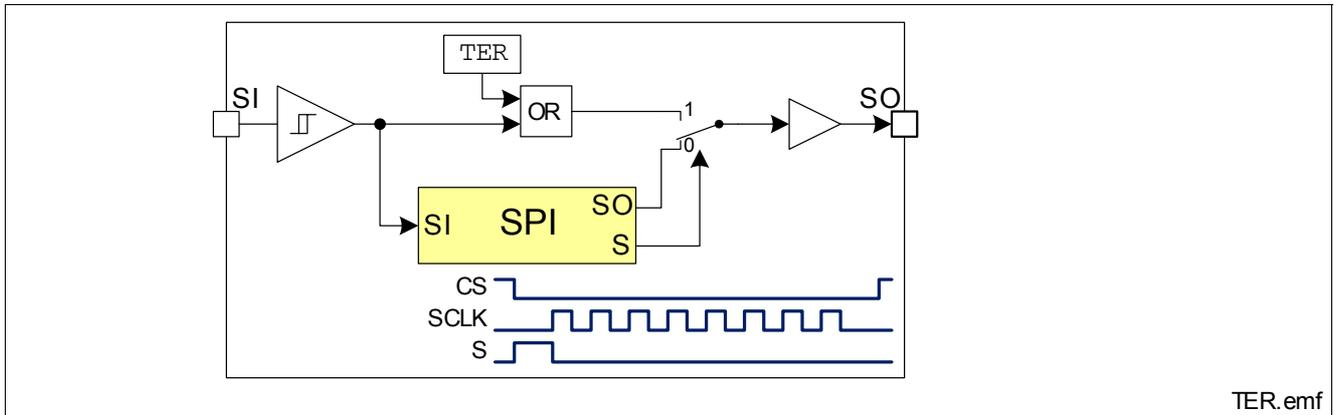

Figure 11 Transmission Error Flag on SO Line
- SO changes from high impedance state to high or low state depending on the logic OR combination between the transmission error flag (TER) and the signal level at pin SI. As a result, even in daisy chain configuration, a high signal indicates a faulty transmission. The transmission error flag is set after any kind of reset, so a reset between two SPI commands is indicated. For details, please refer to Figure 11. This information stays available to the first rising edge of SCLK.